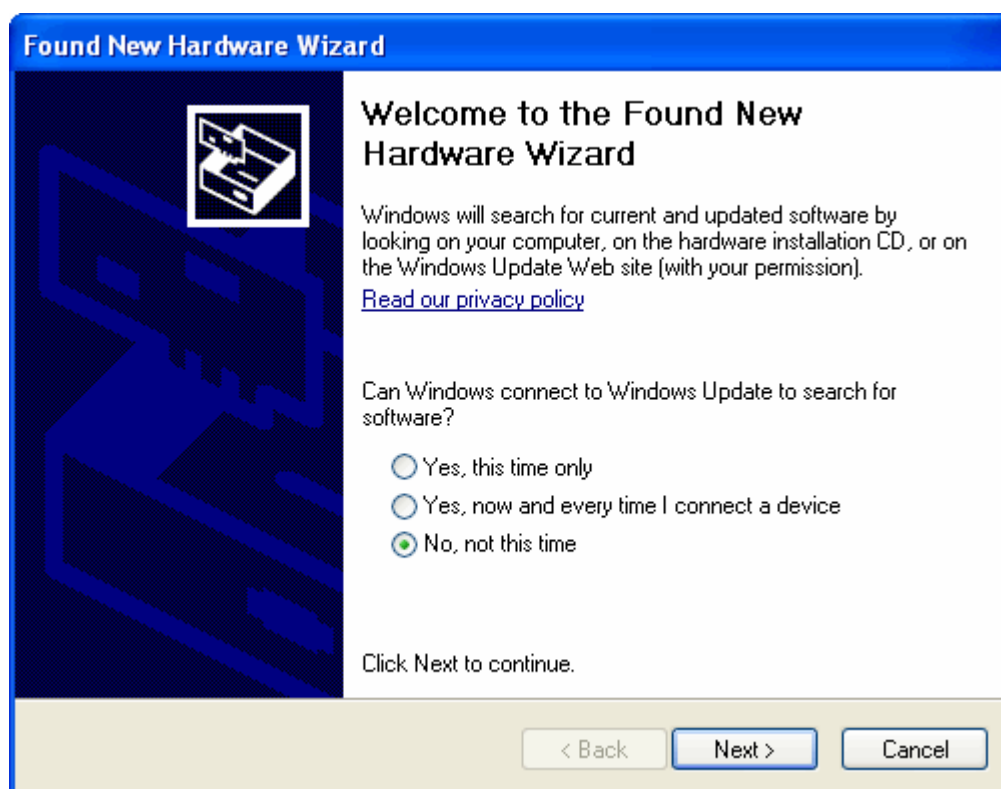
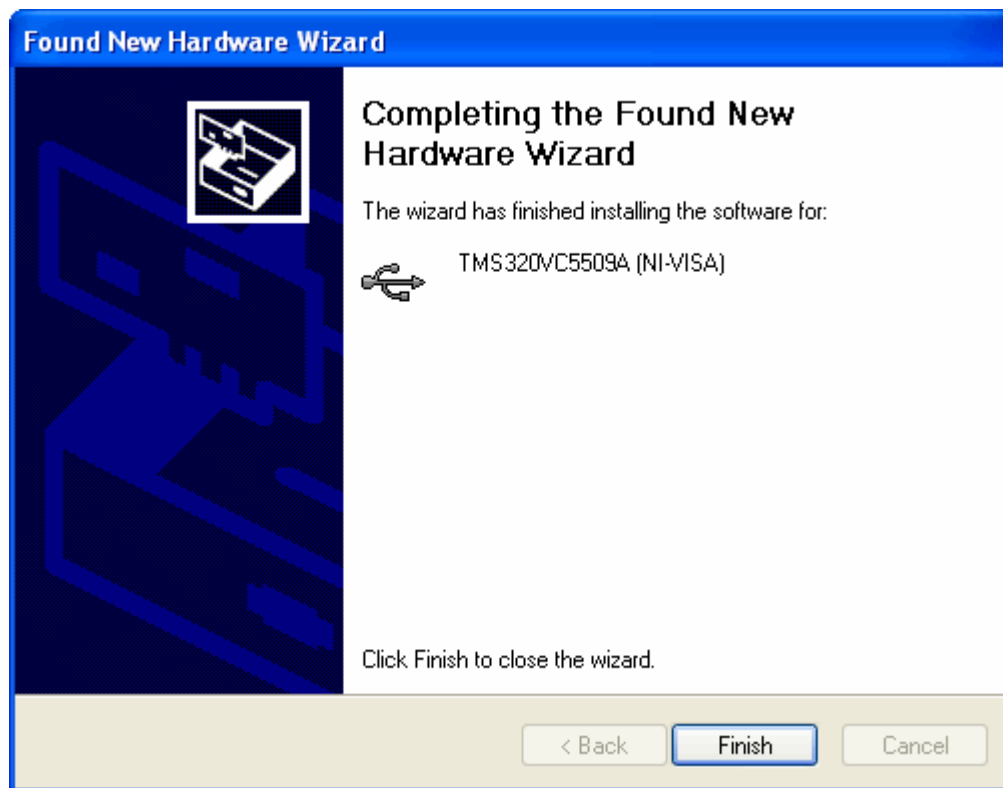

Figure 13. NI-VISA Driver Installation
Figure 16. NI-VISA Driver Complete Installation
2. The computer should recognize new hardware and begin installing the drivers for the hardware. Figure 13 through Figure 16 are provided for reference to show the installation steps.
- For the first screen, Figure 13, it is not necessary to search for the software; it has already been installed to your PC.